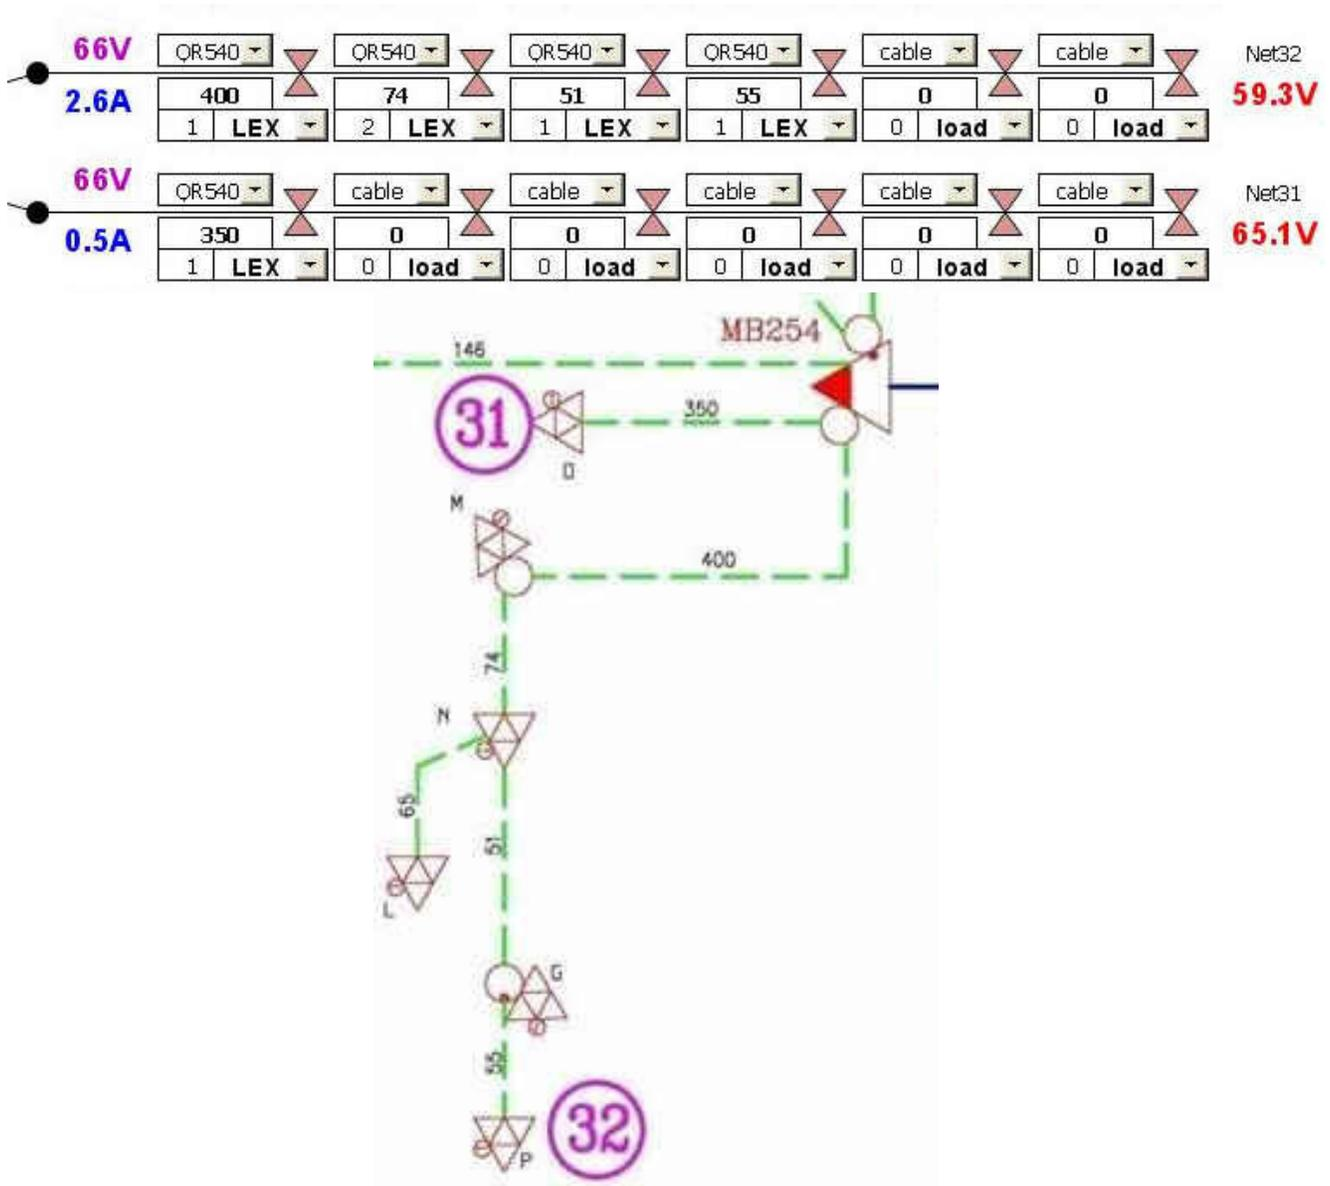

Fig.14 Branches Net32 and Net31
4. Set branches Net31 and Net32 as shown in the Fig.14. Note that we “relocated” the line extender L 65m backward, close to the line extender N since we have no splitting point along the branch. However this amendment is acceptable because the difference in current consumption between two locations for one line extender is evaluated as 0.3% (or 15mA) only and has negligible impact on the overall result.